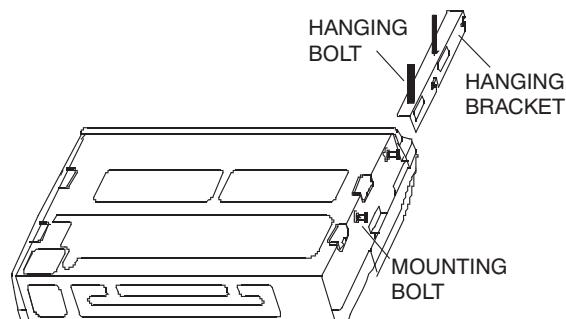

Fig. 9 —Securing Unit To Hanging Bracket
4. Slide the unit backwards onto the hanging bracket until the mounting hole on the unit lines up with the mounting hole on the hanging bracket. Secure the unit using mounting bolts as shown in Fig. 9.